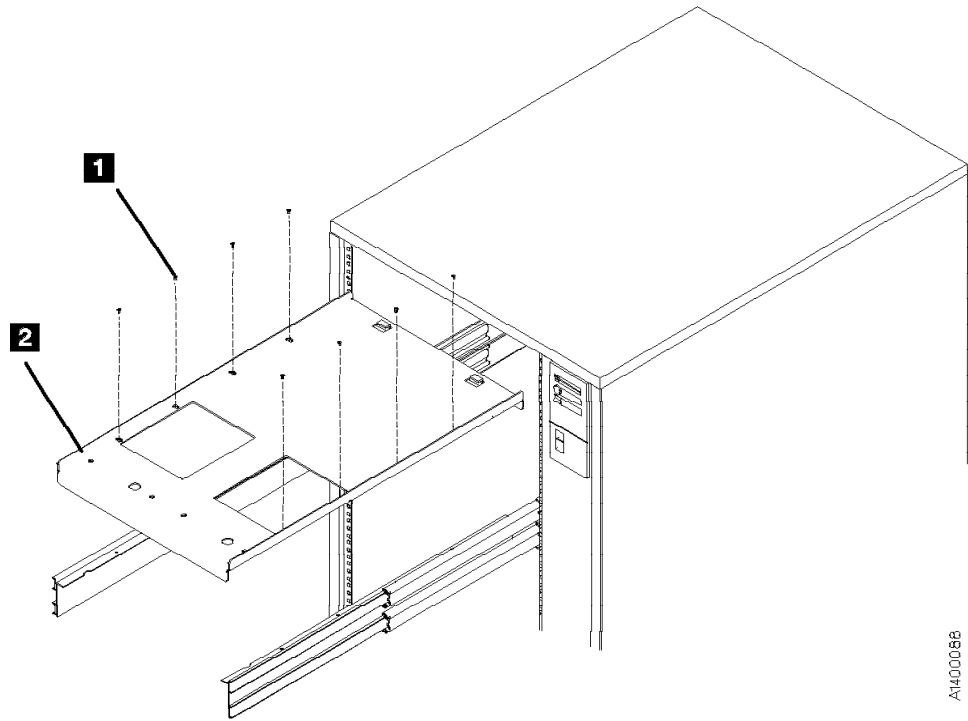

Figure 191. Drive Shelf (Front View)
- 5. See Figure 191. Install the drive shelf **2** P/N 45G0236 by using eight screws **1** P/N 1621308.